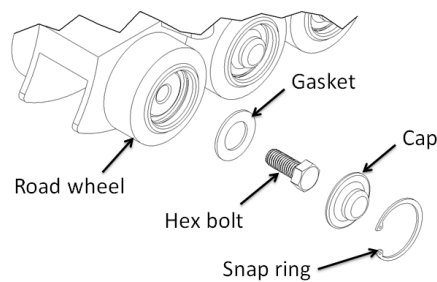

Figure 32 : Road wheel assembly
3. Remove the snap ring and the cap from one of a road wheel to have access to the gasket and the hex bolt (see Figure 32).